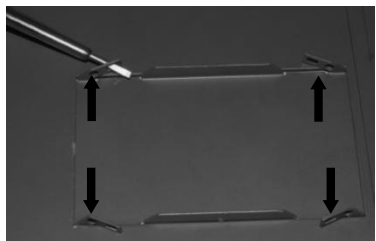

Figure 2-3 Disassemble Keypad
- Disassemble keypad: Put your fingers in finger slots on the top of keypad, press down keypad slightly and pull it outward (see Figure 2-3). For more than 22 kw inverter, after dismantling the keyboard, also need to use the attached cap to cover the hole.